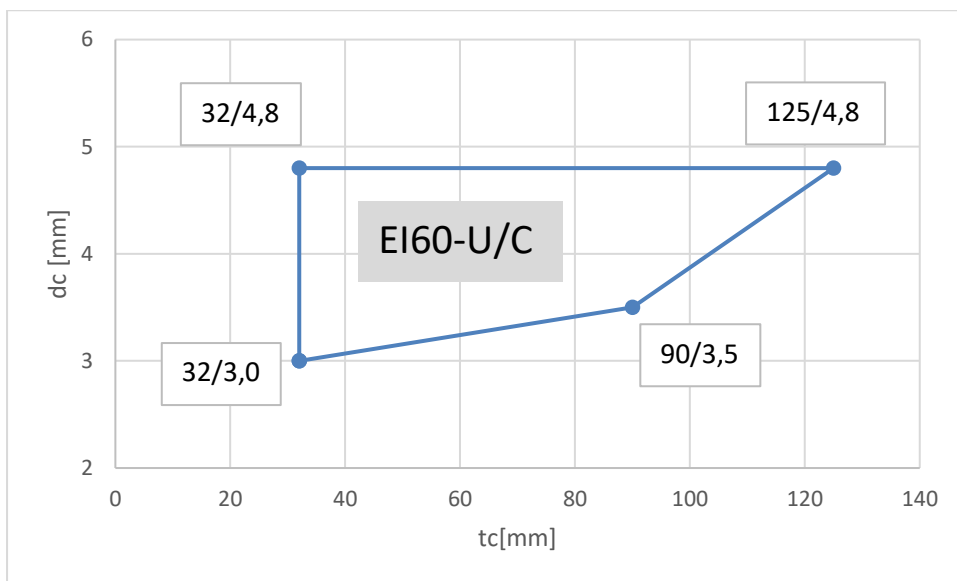

Figure 44: Classified range for PE-pipes, sealed with CFS-B in CFS-CT HDB
Classification given in Figure 44 is valid for:
- For dimension refer to Figure 44